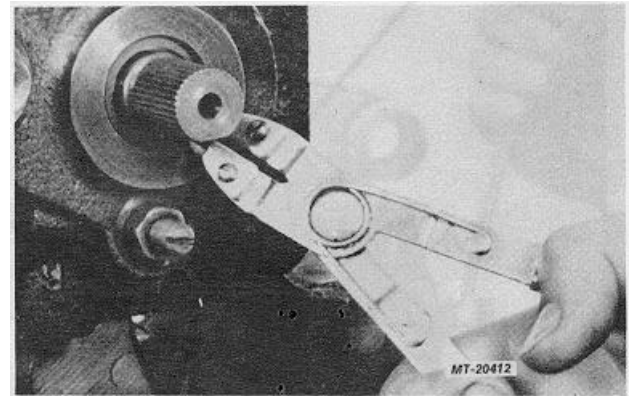

Fig. 46
45. Assemble retaining ring (5) into valve housing (9) with retaining ring pliers (Fig. 46).